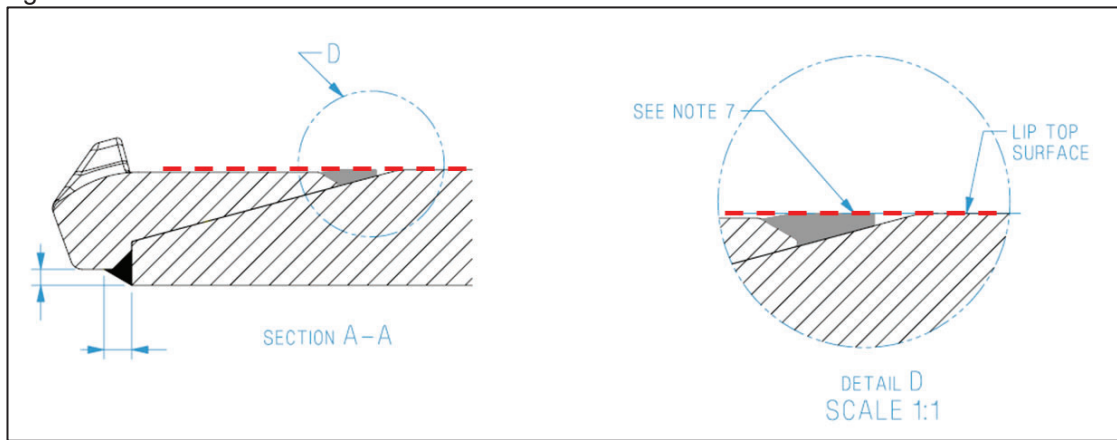

Figure 29 Excerpts from BU00037748 Page 2
2.15.5. After all fillet welds have been completed, clean welds by following weld procedure PWP0001. Grind back any excess weld and smooth transitions between the weld passes. Grind off the extension weld top to Lip Top surface as shown in Weld information drawing BU00037748. Refer Figure 29.